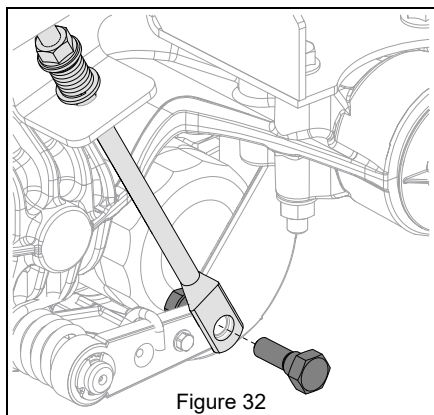

Figure 32
6. Remove hardware securing brake linkages to transaxle brake arms. See Figure 32.
12. Secure brake linkages to the transaxle brake arms with their original hardware. See Figure 32.